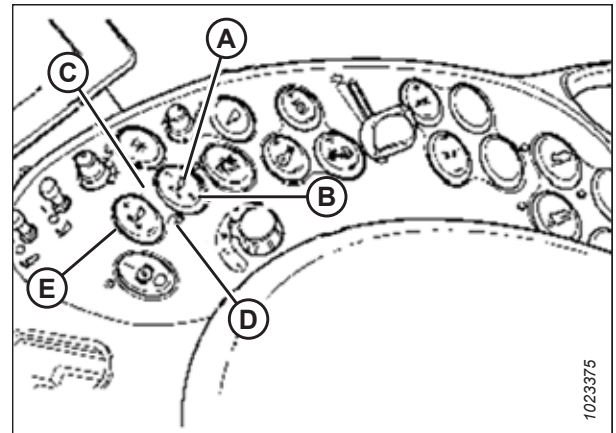

Figure 4.66: Case Combine Controls
6. To swap between these header height presets, press HEADER RESUME (A).
7. To raise the header, press HEADER RESUME (A) twice. To lower the header, press HEADER RESUME (A).
You can adjust these set points by using FINE ADJUST switch (E) in Figure 4.66, page 161.